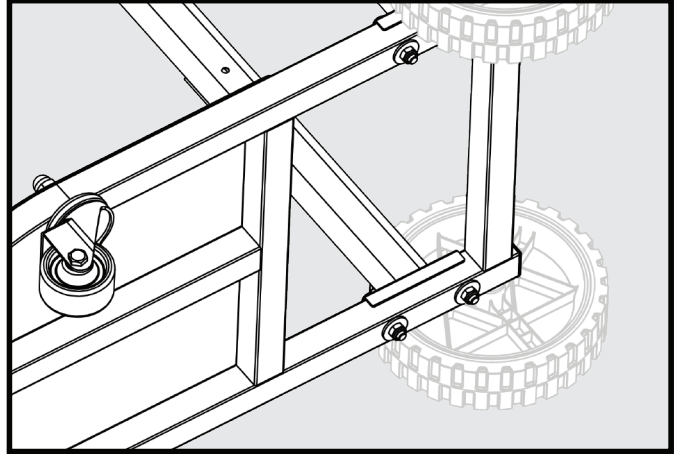

FIGURE 3
3. Insert M8 x 45mm hex socket head screw (18) through base support and base frame as shown.
4. Place M8 flat washer (19) and M8 lock nut (20) on bottom side (Fig 3).